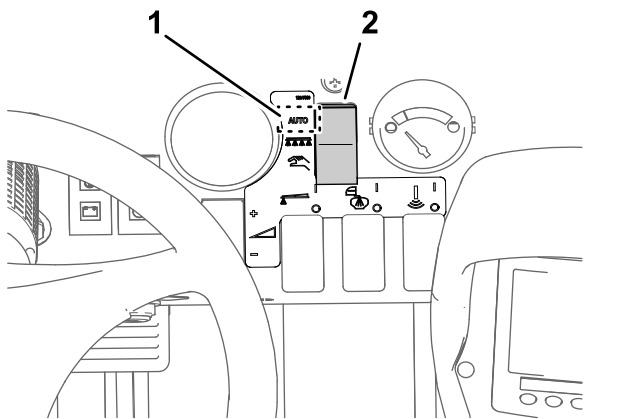

**Figure 28**
2. Rotate the knob for the section-bypass shutoff valve to the closed position (Figure 28).